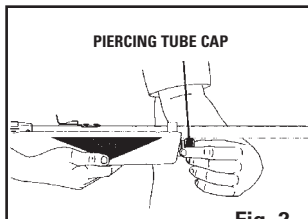

Fig. 2
- Holding the rifle by the foreend, slowly turn the piercing tube cap and remove. (Fig 2)
- Holding the rifle by the foreend, slowly turn the piercing tube cap allowing the release of the remaining CO2 before removing the cap. (Fig 2)